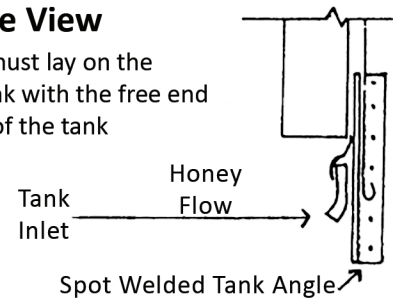

Figure 2
3. Checking the float switch operation - In this type of sump operation, a spud type float method is used. (See Figure 2.) Without the float rod installed, the switch operating lever can be pushed up or down and the lever will remain in either position. If the lever "snaps back" when released, the counterbalance spring must be adjusted (screw adjustment) .